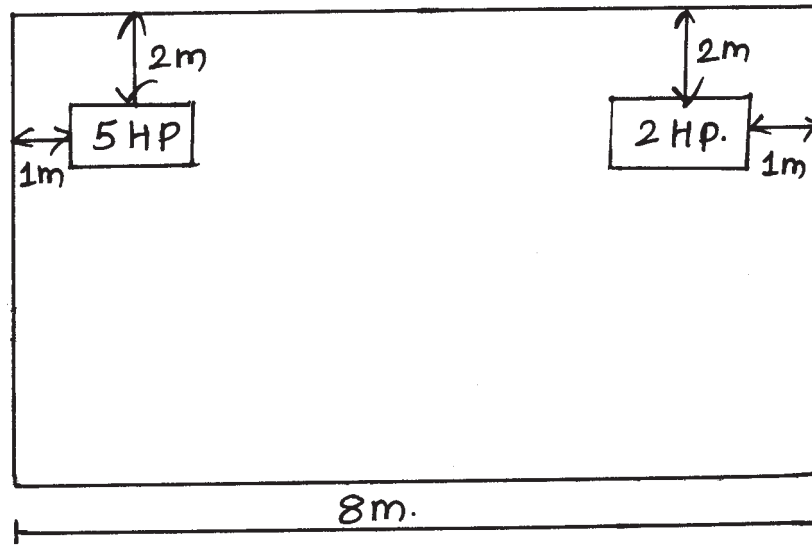

Fig. No. 1
- Prepare the schedule of material for industrial load as per Figure No. 1.